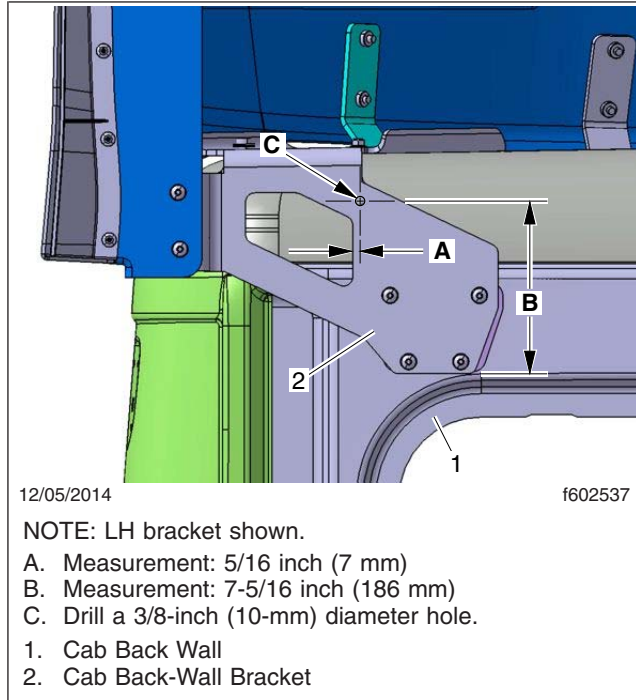

Fig. 2, Drilling Location on Cab Back-Wall Bracket
3. Locate and drill a 3/8-inch (10-mm) diameter hole in each cab back-wall bracket. See **Fig. 2**.